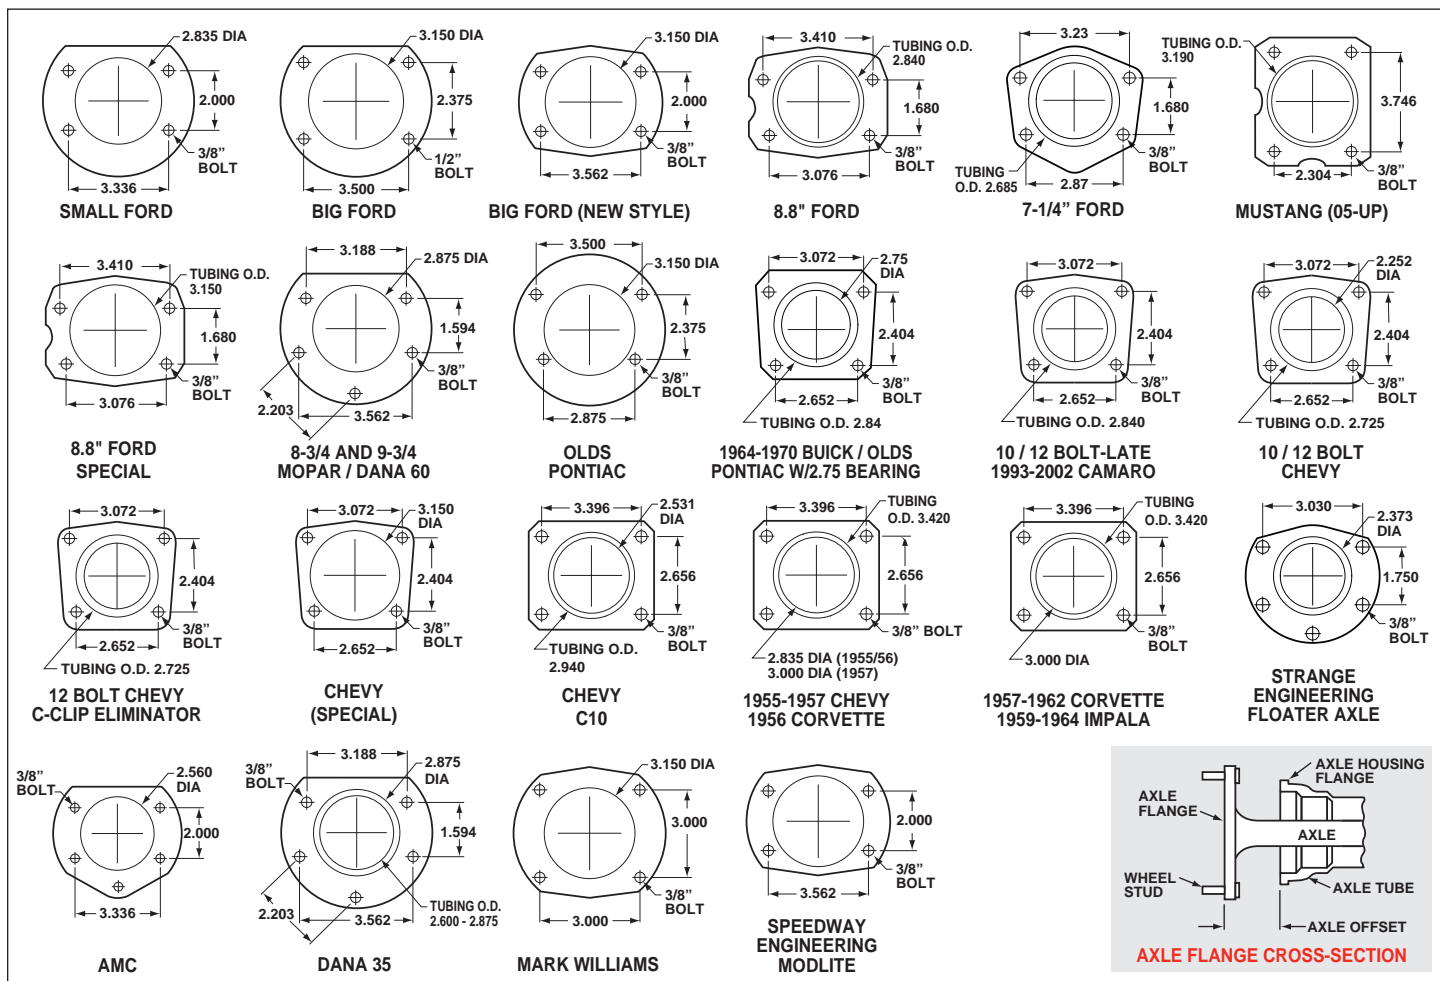

Figure 6. Rear Housing Flange Chart and Axle Flange / Offset Cross-Section
• Make sure this is the correct kit to fit the axle housing flange, not necessarily the rear end make. Many times aftermarket manufacturers put a different make of axle housing flange on the stock rear end housing (Figure 6). Example; Big Ford rear ends with Olds-Pontiac flanges, therefore, an Olds-Pontiac rear disc brake kit would be the correct kit to order.
- Dimension from wheel side of axle flange to wheel side of axle housing flange (see Figure 6, lower right hand corner). This dimension is critical to ensure proper alignment of the rotor to the caliper, and should match offset given in the kit description.